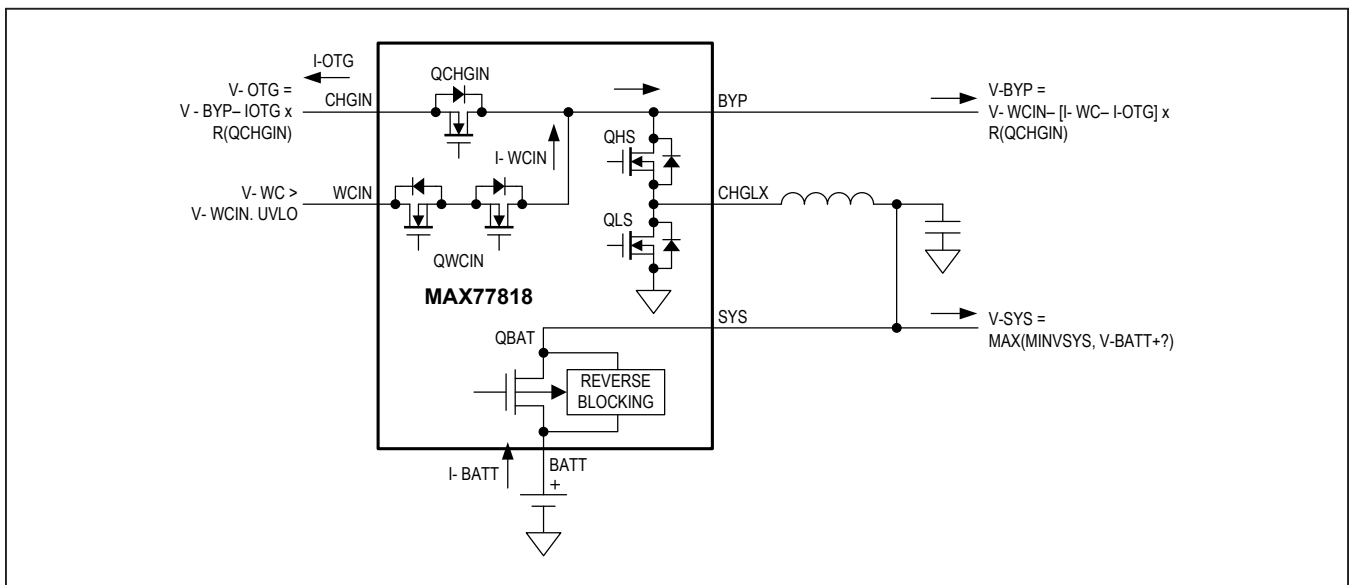

Figure 15. No Charge Buck (OTG)
**No Charge Buck (OTG),  $MODE = 0x0E$ :** Wireless charger is detected within the input voltage operating range ( $QWCIN = on$ ) and OTG is active ( $QCHGIN = of$ ). Battery is connected in charge mode ( $QBAT = on$ ), and charger is operating in buck mode. See Figure 15.